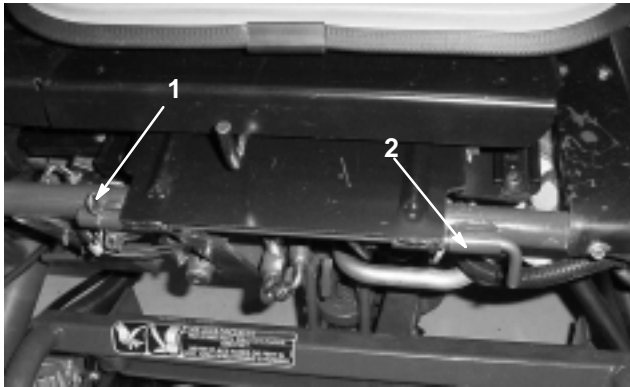

Figure 41
3. Lower the seat and remove the cotter pin securing the seat pivot rod to the frame (Fig. 41).